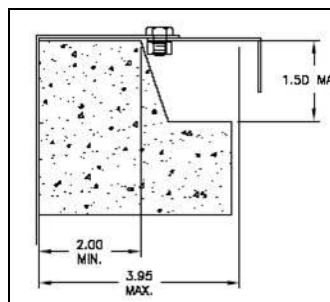
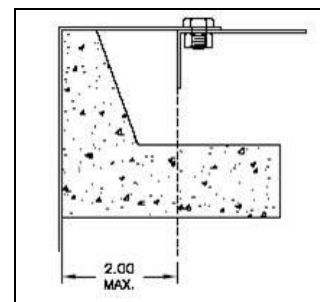

Figure 2: Universal Bracket for Wider Gutter Lip
Figure 3: Universal Bracket for Narrow Gutter Lip
2. The universal bracket adjusts to both a narrow or wider gutter lip. (*Figure 2* and *Figure 3*).